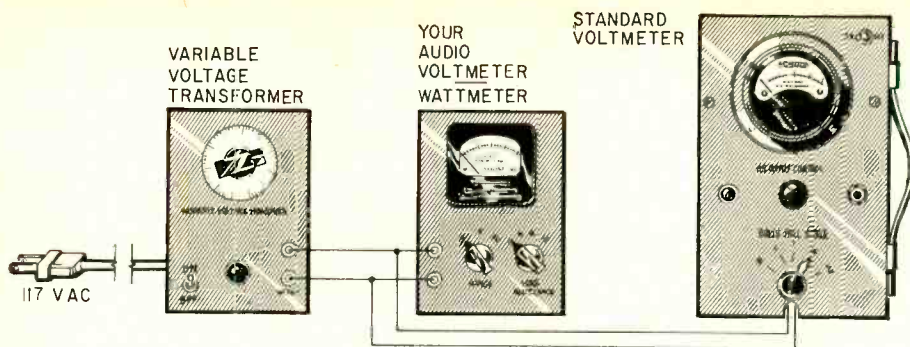
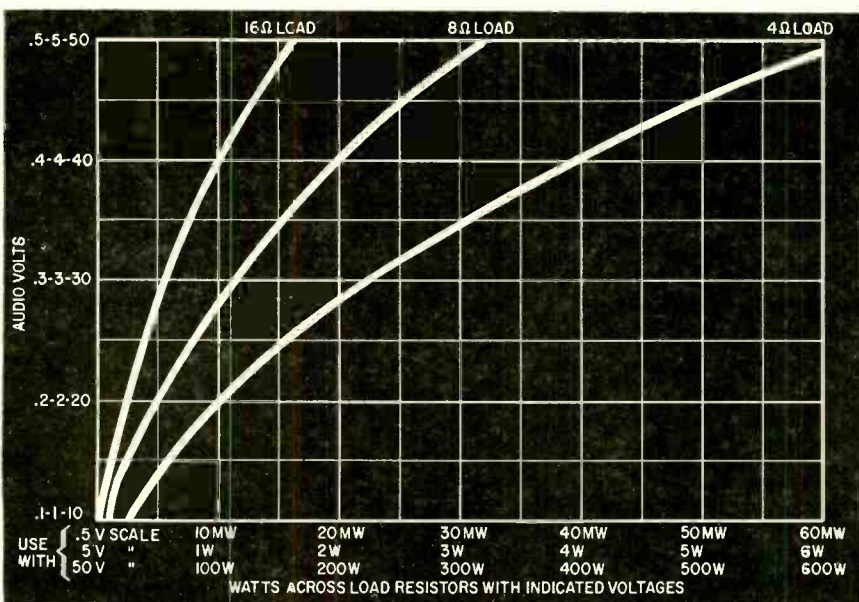

Fig. 2—Block diagram shows hookup for calibration.
Fig. 3—Conversion chart for wattage. If you add direct-reading wattage scales to your instrument, this chart is not needed.
1. Connect the standard voltmeter, the variable voltage source and the meter you have just built as in Fig. 2.
This completes the meter multiplier calibration and you are now ready to plot a scale for your meter. Use the arrangement shown in Fig. 2 and remember that the more calibration points you plot the more accurate your meter will be. You'll find the 0.5-volt range is nonlinear. It must have a separate scale. The other two ranges are very linear and one scale can be used for both. You can mark this scale from 0 to 5 and use a mental multiplier of 10 when you use the 50-volt range. You can also add a wattmeter scale if you like, or you can make a conversion chart like the one in Fig. 3. Unless you have installed new meter dial scales before, better use the calibration chart. A microammeter magnet will attract any iron filings within a radius of several inches. I can speak from first-hand experience here since I nearly ruined